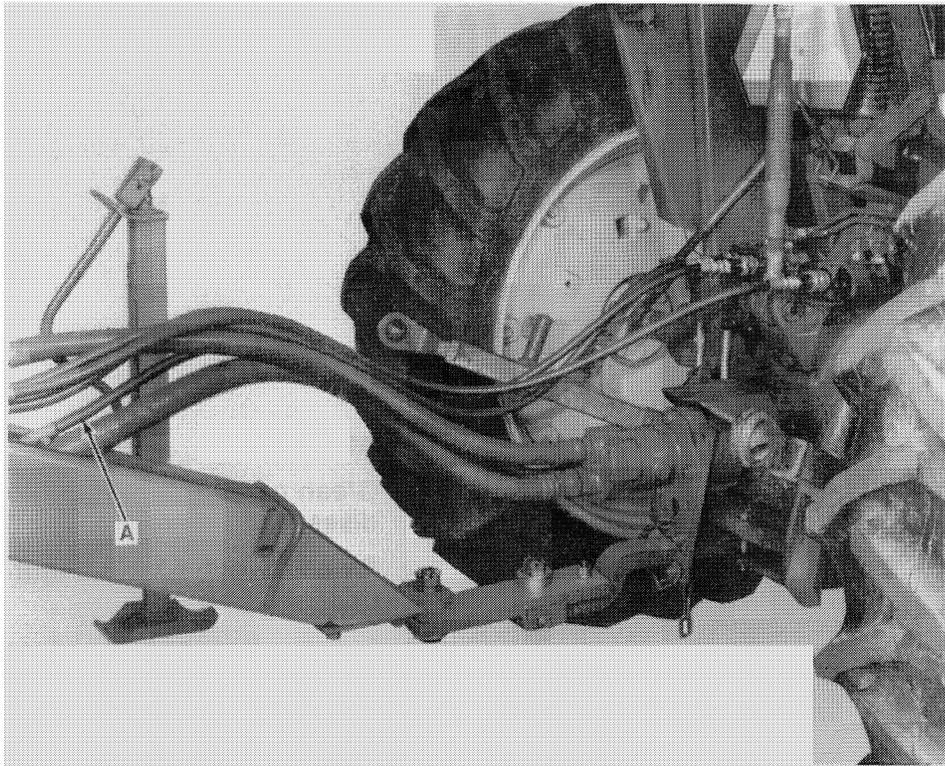

FIGURE 2
6. If a flow meter is not available to check case drain oil volume at pump, oil can be collected in a measurable container. Disconnect case drain return line, A, Figure 2, and install a 3/8" pipe plug in tongue.